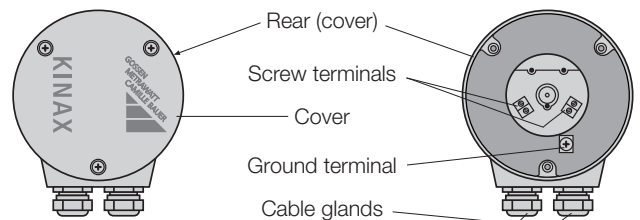

Fig. 9. KINAX WT 707 with screw terminals and cable glands.
On units with **screw terminals** and **cable glands PG 11** (see Fig. 9) there are 4 screw terminals and a grounding terminal in the rear cover. The screw terminals accept gauges up to 1.5 mm² and are accessible after removing the cover.
5) Metal / screw terminals and PG 11 glands (see Fig. 9)